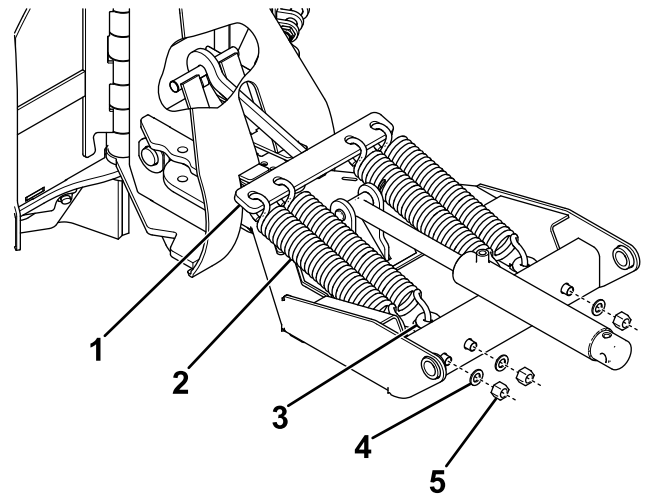

Figure 7
- Hook the spring yoke to the cross rod inside the blade center (Figure 7).
- Hook the 4 trip springs through the holes in the spring yoke (Figure 7).
- Hook the other ends of the trip springs to 4 eyebolts (Figure 7).
- Insert the threaded end of the eyebolts through the holes on the pushframe and secure them using 4 washers (5/8 inch) and 4 top nuts (Figure 7).
- Tighten the top nuts for the 4 trip springs until there is a gap of 0.8 mm (1/32 inch) between the coils (Figure 7).